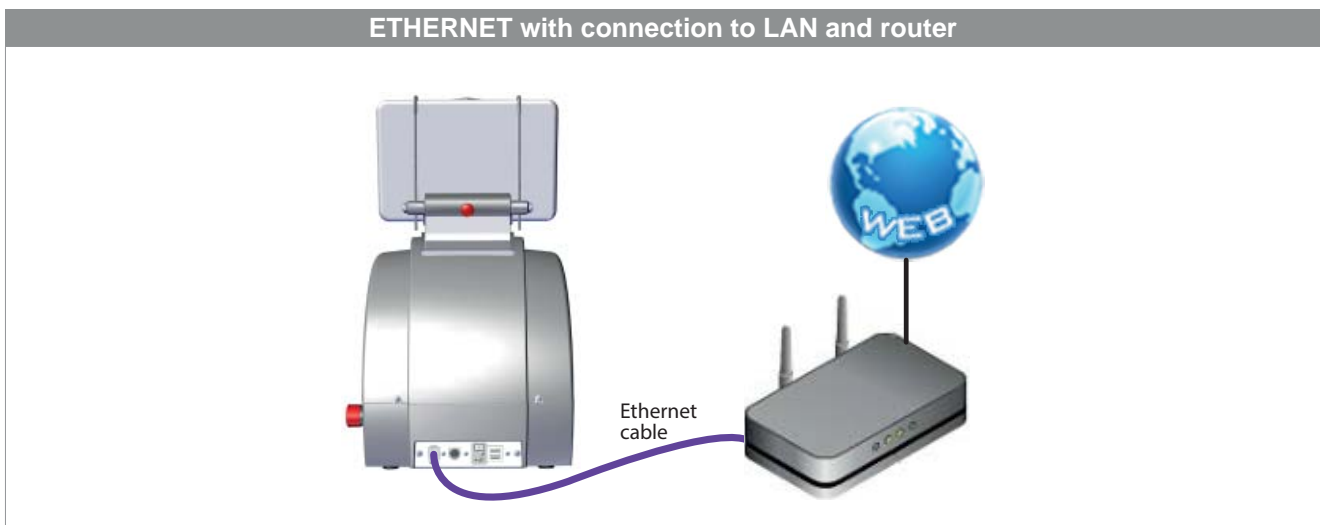

Fig. 11
- Connect your LAN ethernet cable to the machine (Fig. 11).